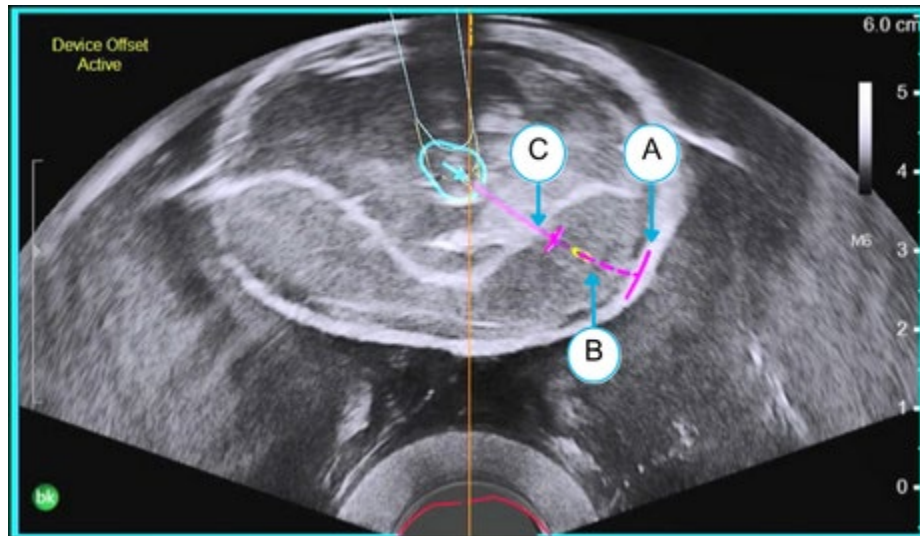

Figure 12-13: Projected Needle Path and Initial Deployment Length
■ **NOTE:** In the Axial Ultrasound view, the Needle Guidance System provides information as to the range of potential Needle pathways if the Needle were deployed at a chosen angle. This range is represented as a magenta-colored arch (**A**) at the maximum deployment length. A dotted line (**B**) depicts the most likely Needle path with a solid section (**C**) depicting the initial deployment length (**Figure 12-13**).